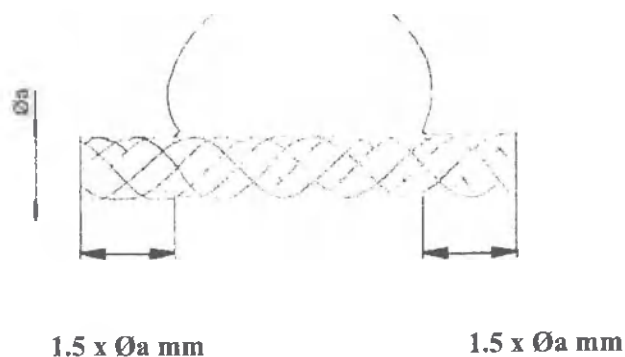

Fig. 1.
The stent length must be chosen such as to ensure the stent protrusion beyond the aneurysm neck from both sides by the length exceeding the target artery diameter, at least, 1.5 times (see Fig.1 below).
- Put the distal end of the stent (1) at the target place; the distal end shall protrude beyond the aneurysm neck for the length exceeding the target vessel diameter, at least, 1.5 times (see Fig.1).
- Carefully expand the stent, while advancing the delivery wire (2) **and** retracting the microcatheter (4).
- Note:** At this stage, the distal end of the delivery wire (2) will advance forward (as the stent will shorten, while getting expanded).
- At any moment of expanding (until the distal marker (7) of the microcatheter (4) coincides with the marker (6) of the delivery wire), the stent can be returned into the microcatheter by pulling the delivery wire (2).